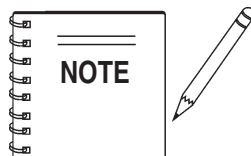

**Figure 6. Voltage Change Switch**
2. Remove the voltage change lock-out bolt and nut (Figure 6). Change the position of the **voltage change toggle switch** from 115 VAC to 230 VAC. The mixer is factory wired for 115 VAC operation.